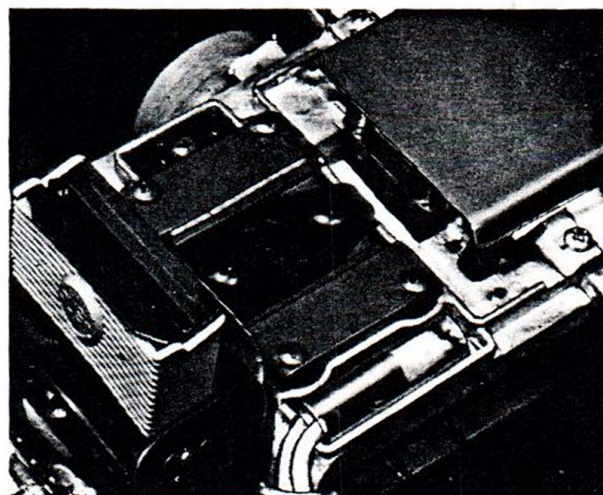

Figure 21. Handle Pivot Spring Assembly Replacement
- B. See Figure 21. Remove two phillips head screws from bracket.